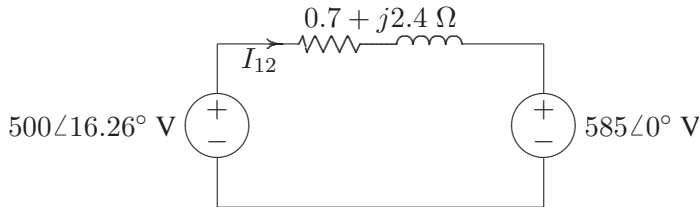

FIGURE 9
2.8. Two single-phase ideal voltage sources are connected by a line of impedance of $0.7 + j2.4 \ \Omega$ as shown in Figure 9. $V_1 = 500\angle 16.26^\circ$ V and $V_2 = 585\angle 0^\circ$ V. Find the complex power for each machine and determine whether they are delivering or receiving real and reactive power. Also, find the real and the reactive power loss in the line.